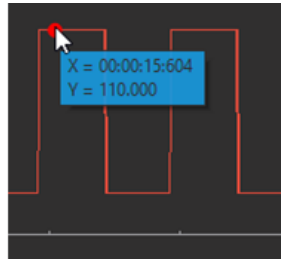

Figure 8.35: Acquisition View - Instant values
- The **Instant values** box can be activated by double-clicking the **Input graph** box and selecting **Show instant values** (Fig. 8.35). This box shows the current value detected by the console for each trace on the selected channel. This box cannot be activated on **Preview graphs**. To remove instantaneous value, double click on the dot.